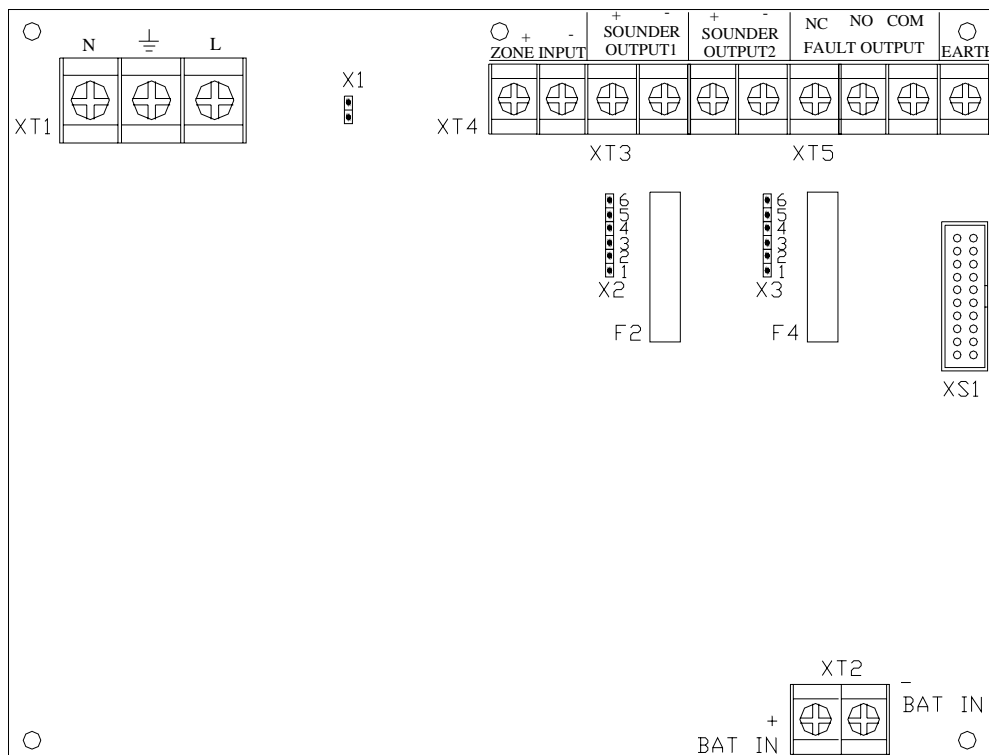

Fig. 3.6.2
- a There are three output modes for the two sounders: normally closed contact output, normally open contact output and voltage output. For example: to set Sounder 1 as voltage output, plug fuse F2 and connect foot 5 with 6, and 2 with 3 of pin X2 by jumpers (location of the parts as in Fig.3.6.2).
- b Detailed description are shown in Table 1 (position of the parts is shown in Fig.3.6.2).